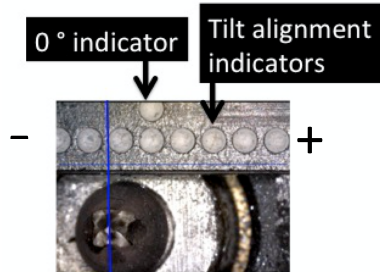
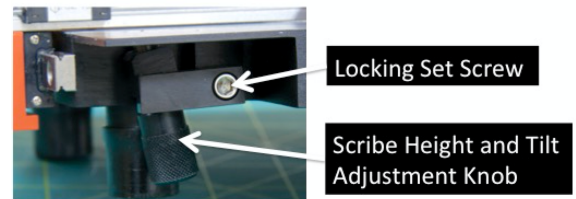

Figure 5 Set the tilt of the diamond scribe. A tilt of -1 to -2 is shown.
Figure 6 Set the height of the diamond scribe
4. First set the tilt. Tilt is adjusted by tilting the scribe with the tilt adjustment knob (Figure 6) using the tilt alignment indicators as reference points (see Figure 5). The vertical position has two dots. For most samples set the tilt to -1 to -3 dots from vertical.